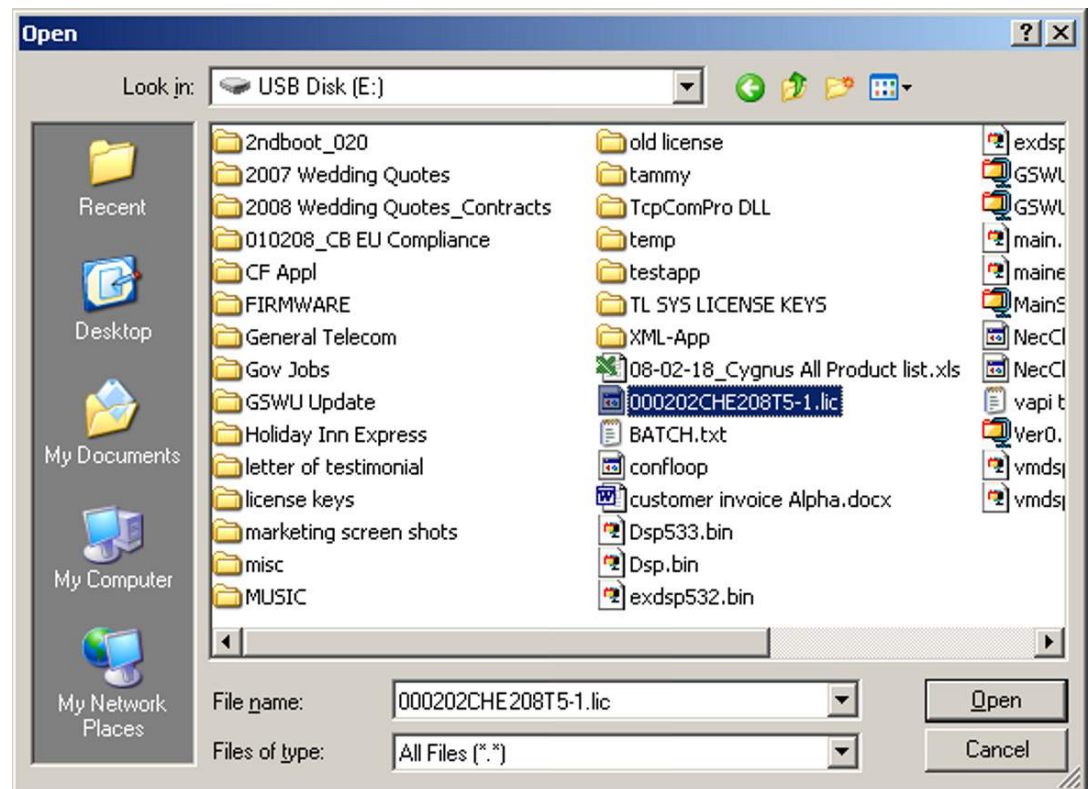

Figure F-2 Feature Activation Open File Dialog
3. Click **Load File** (refer to Figure F-2 Feature Activation Open File Dialog on page F-3).
5. When the confirmation dialog is returned, click **Save & upload now** to immediately save the file on the ProPro database and activate the feature (refer to Figure F-2 Feature Activation Open File Dialog).